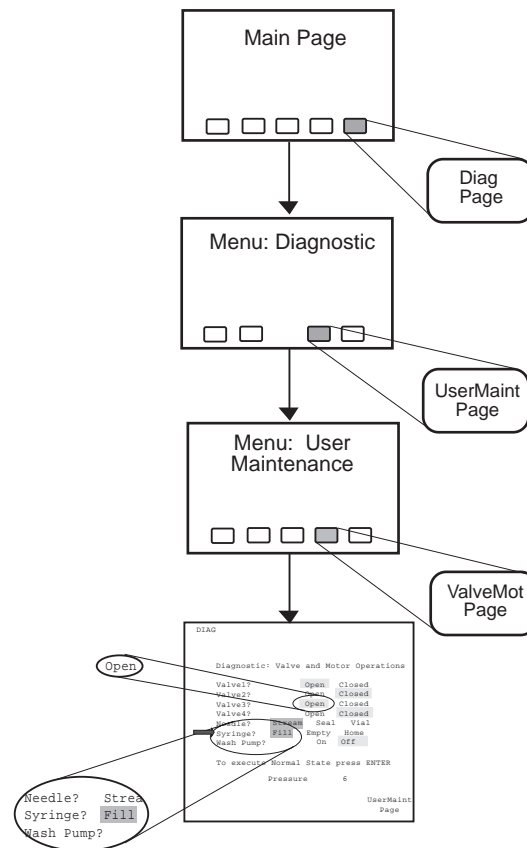

Figure 5-3 Positioning the Syringe for Removal
1. Lower the bracket by pressing the keys indicated in Figure 5-3.